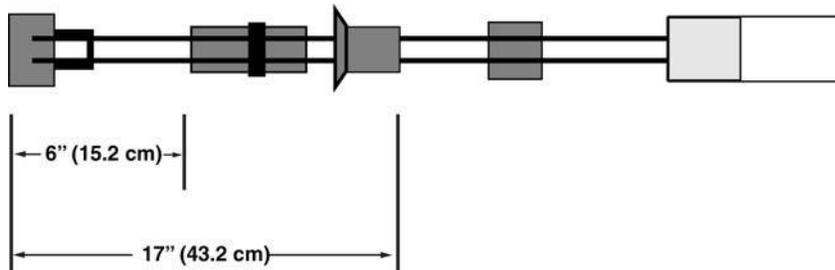

Figure 5-23 Low-Low Threshold
2. Measure the distance between the end of the probe shaft and top end of the Density Sensor. To this distance, add 2 inches (5.1 cm) to account for the dead zone at the end of the probe. The resulting value represents the minimum product Low-Low threshold (see Figure 5-23).